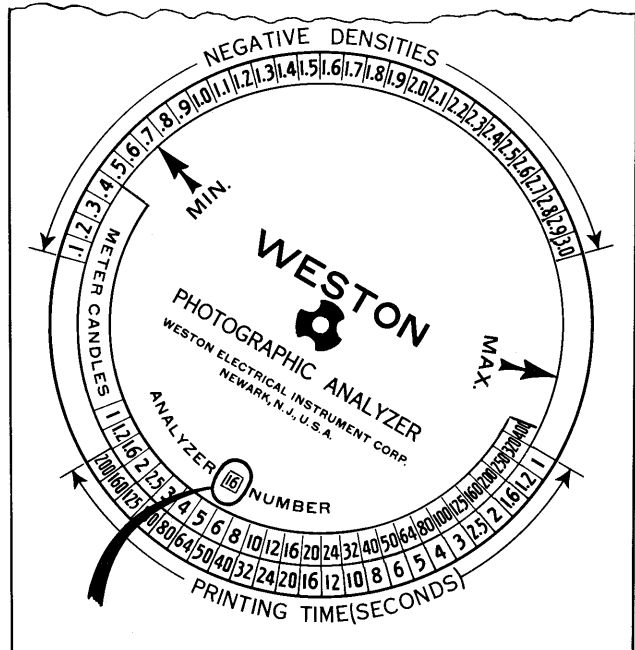

Fig. 4
e. With both dials of Exposure Guide still set as in step "b" above, turn top disc only until MIN arrow points to density you have selected in "d". The new figure in the Analyzer Number window is the true speed number for this printing paper in terms of your working conditions. See Figure 4.
f. Record this number (16) on back of Exposure Guide and on paper envelope or box.